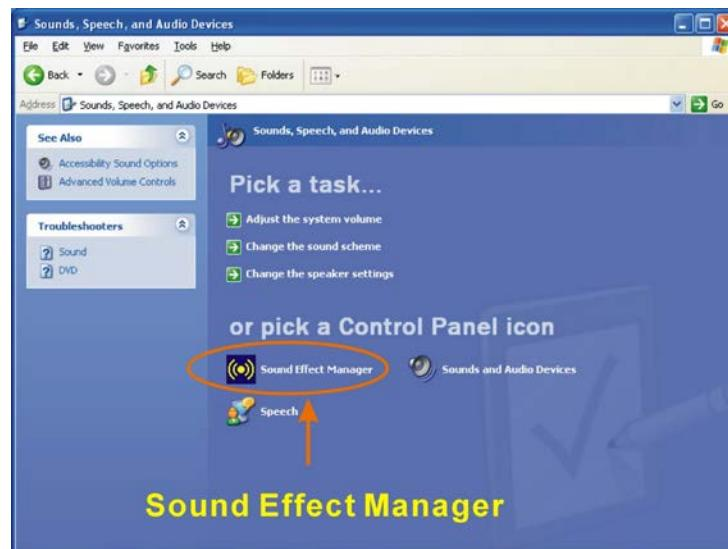

Figure E-3: Sound Effect Manager Icon [Control Panel]
- The Sound Effect Manager icon in the Control Panel (**Figure E-3**).